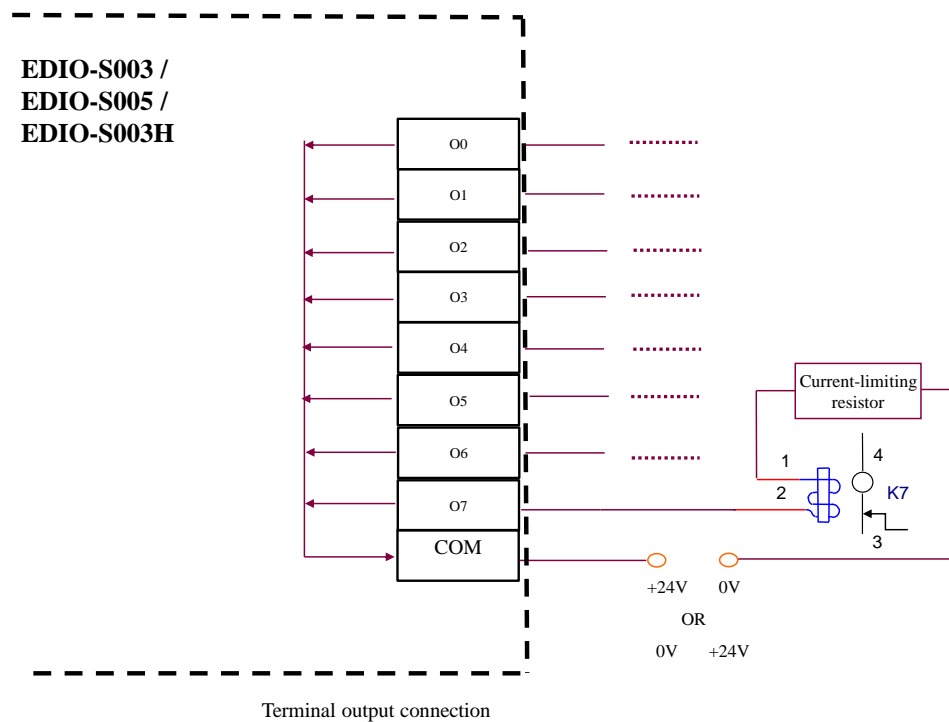
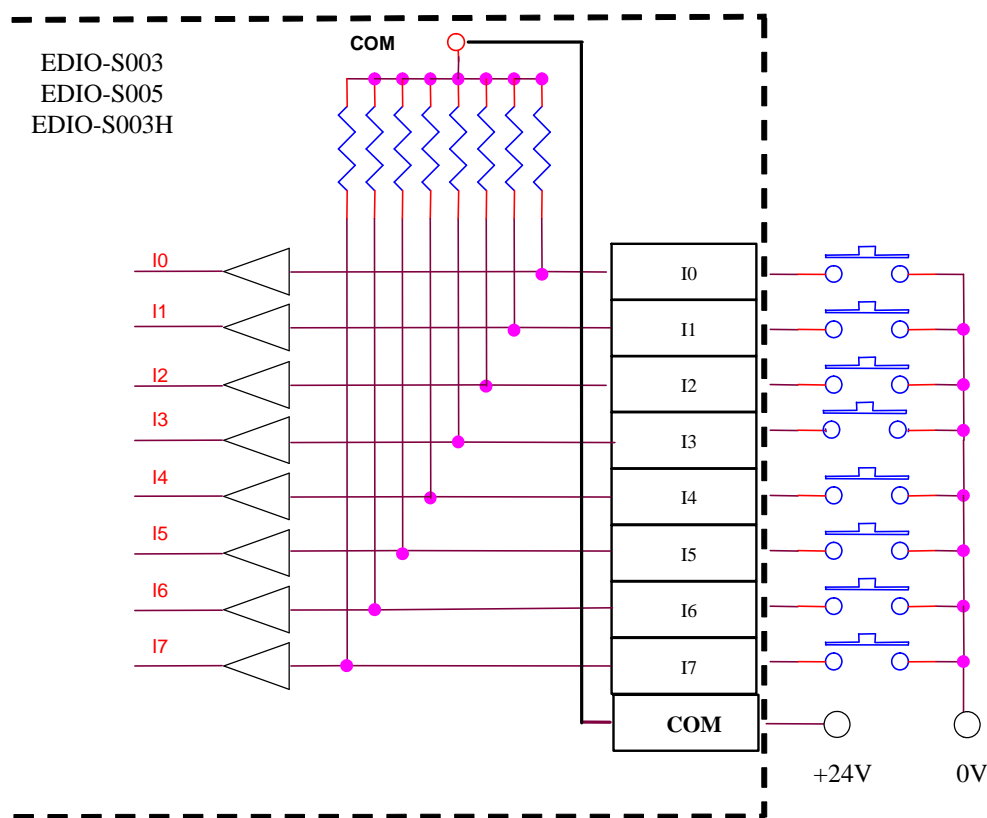
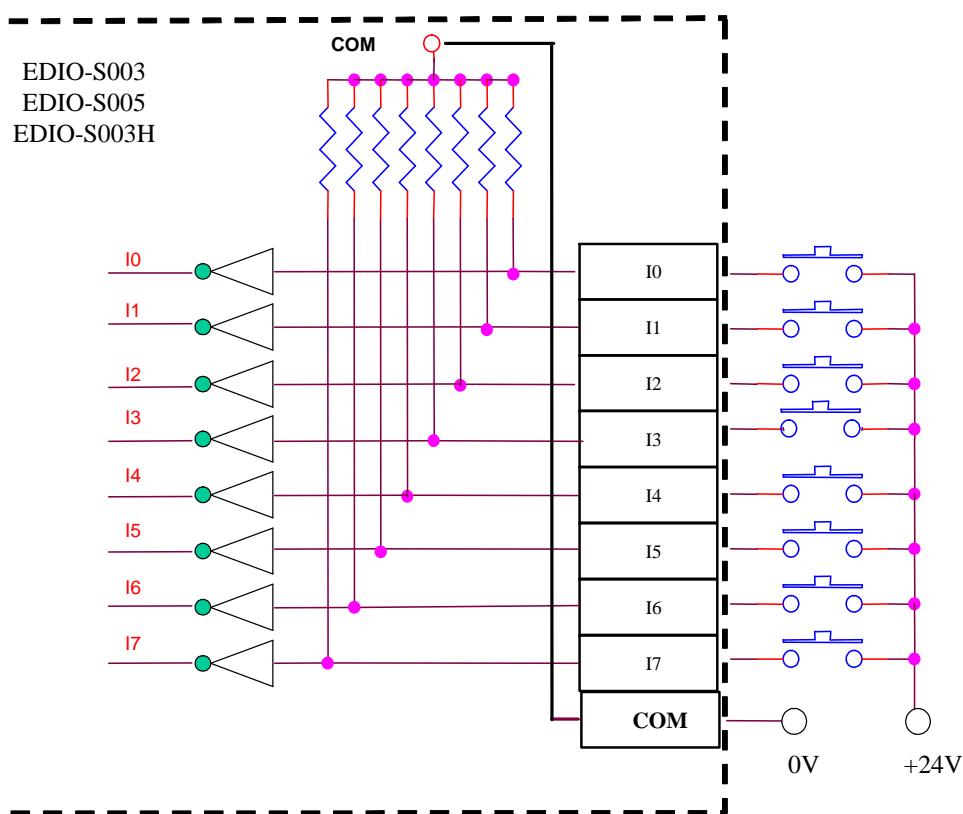

Fig. 8 Output wiring
Fig. 9-1 Source-input type wiring
Fig. 9-2 Sink-input type wiring
Fig. 8 shows the EDIO-S003 / EDIO-S005 / EDIO-S003H output pins connect solenoid valve or relay application (sink or source-types output are available).
Fig. 9-1 shows the source-input type application of EDIO-S003/EDIO-S005/EDIO-S003H input connection wiring. When COM is connected to 24V, it operates as source-input type and the current flows from the input connections. When one terminal of the SW Button is connected to I0 to I7 and the other terminal is connected to 0V, the EPCIO series motion control card will read the status as LOW (0); otherwise, it will read the status as HIGH (1).
Fig. 9-2 shows the sink-input type application of EDIO-S003/EDIO-S005/EDIO-S003H input connection wiring. When COM is connected to 0V, it
| 2008/03/04 | 1.3 | +5V~24V was revised to +24V (Fig. 8); the input wiring diagram on P. 9 was revised to Fig. 9.1 (Source-type) and Fig. 9-2 (Sink-type). |